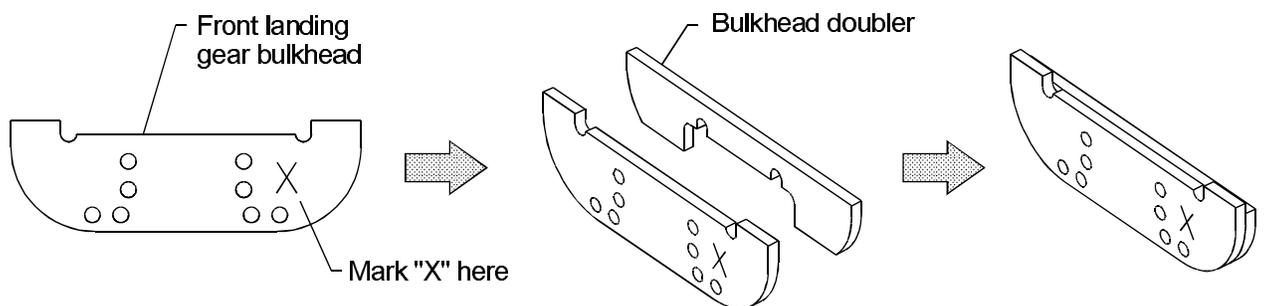

Figure 5-4.
- ❑ 11. Lightly mark an "X" on the front landing gear bulkhead as shown in Fig. 5-4.